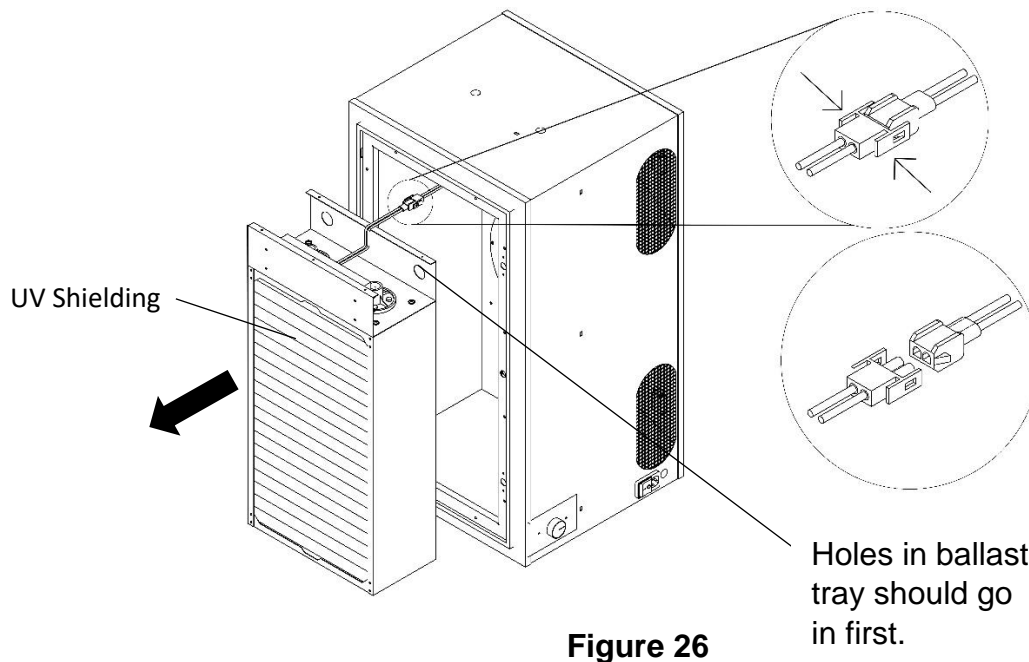

Figure 26
4.) Remove catalyst panel. See Figure 26.
5.) Disconnect 2 pin MOLEX connector providing power to old catalyst panel. See Figure 26.
6.) Reconnect 2 pin MOLEX connector providing power to new catalyst panel. See Figure 26.